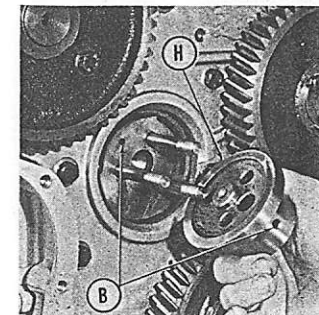

Fig. 119—Oil feed passage (B) in cylinder block and idler gear hub (H) must be aligned when hub is installed.
Idler gears should have a diametral clearance of 0.003-0.0047 on idler gear hubs. Idler hub retainer plates and the flanged bushings in the lower idler gear (4—Fig. 117) are renewable. End play of assembled idler gear should be 0.002-0.004. Hubs (H—Fig. 119) are interchangeable for the two idler gears. Retaining stud holes permit hubs to be installed only one way, with oil holes (B) aligned. Idler hubs are a light press fit in engine block and can be pried out if renewal is indicated. Refer to paragraph 116 for installation and timing of idler gears.